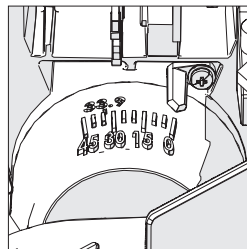

Fig. 21
- Tilt the cutting head to the required angle. An angle scale is provided as an aid to setting (Fig 21).